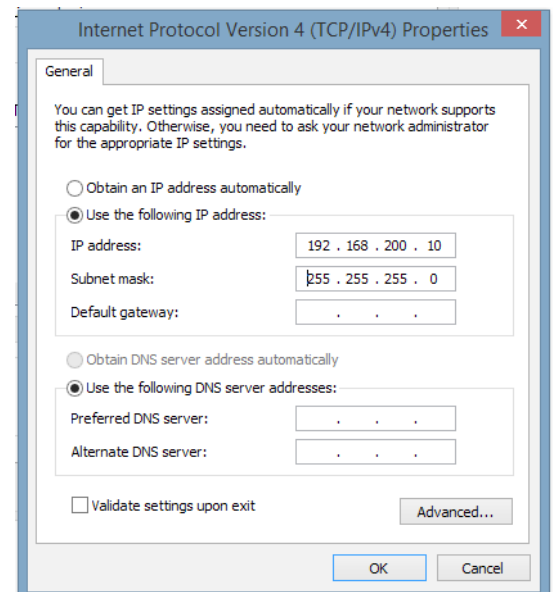

Fig. 2-41, Internet Protocol (TCP/IP) Properties Screen, Windows 10
7. The Internet Protocol (TCP/IP) Properties dialog box will open (Fig. 2-41). Select “Use the following IP address”. Enter the values as shown (i.e. IP address 192.168.100.2 and Subnet mask 255.255.255.0). Record the existing IP address and Subnet mask in order to later return the computer to its original state.